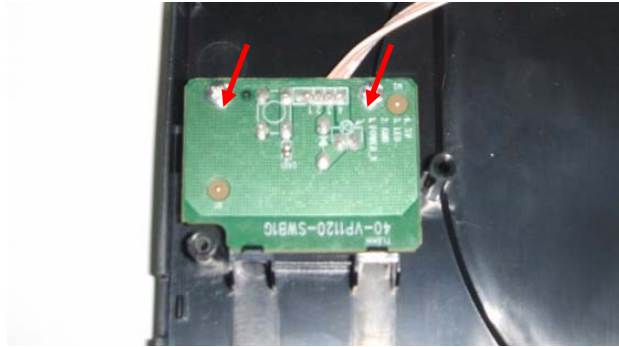

Figure 9
**Step6:** Dismantling switch board: disconnect the 2 screws, then can remove the switch board. (Figure9)